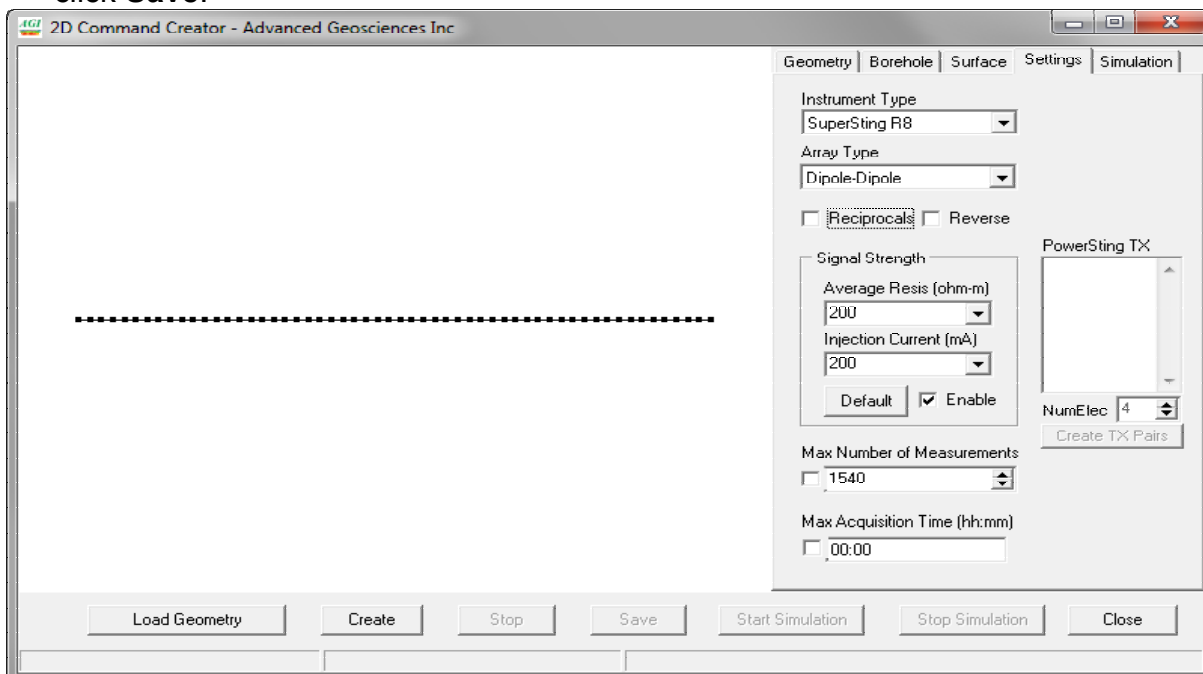

Figure 9: EarthImager2D Settings menu
7. Once you see the layout, access the **Settings** tab and choose the **Instrument type** and **Array type** (Figure 9). Then click **Create** to generate the command file. For more details about the settings, refer to the EarthImager2D manual. After the command file is created, click **Save**.